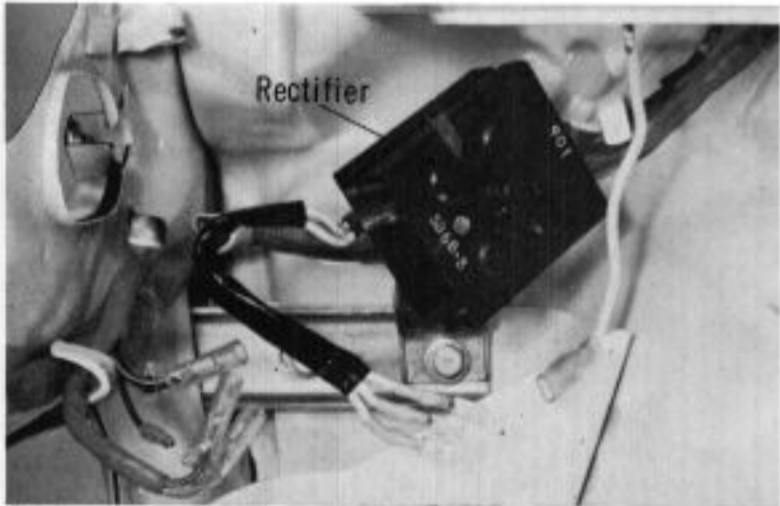

Fig. 17A-82
9. Generator voltage after completing adjustment is as shown in Fig. 17A-80.